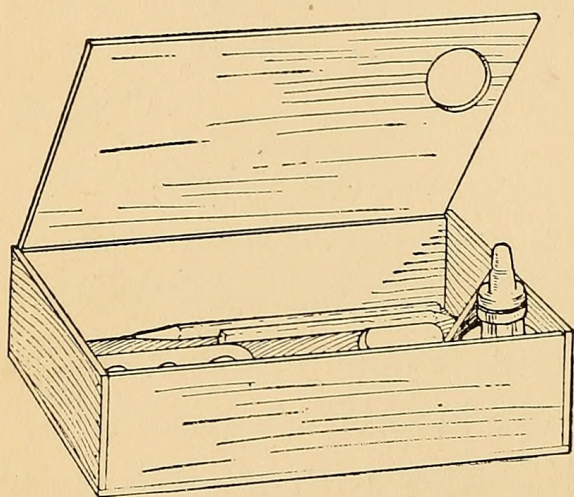

FIG. 104. — Cigar-box Pencil Box and Inkstand.
**A Home-made Pencil Box and Inkstand** such as is shown in Fig. 104 is very convenient. It is made out of a cigar box. One corner of the box is partitioned off to hold the ink-bottle, and the cover has a hole cut through it so it will fit over